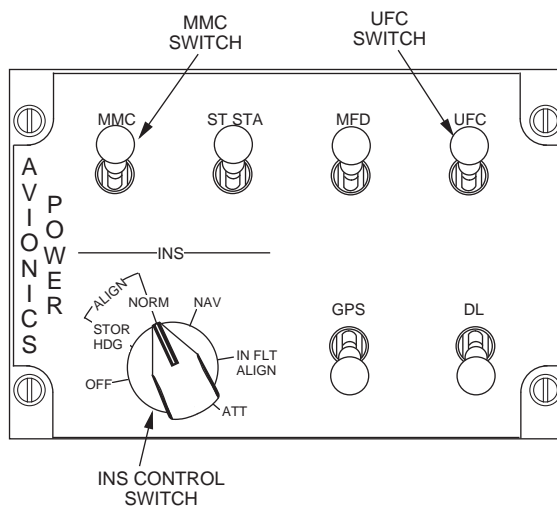

Figure 2-1 INS Control Settings
**Normal Alignment.** The RLG INU requires 8 minutes for a full gyrocompass alignment, regardless of ambient temperature. If the pilot cannot wait for a full alignment, he may switch to the NAV mode after approximately 1 1/2 minutes and accept degraded navigation accuracy. To initiate a normal gyrocompass alignment, the pilot must first select both the MMC and UFC power to ON the Avionics Power Panel, and rotate the Inertial Navigation System (INS) control switch to NORM (Figure 2-1.)